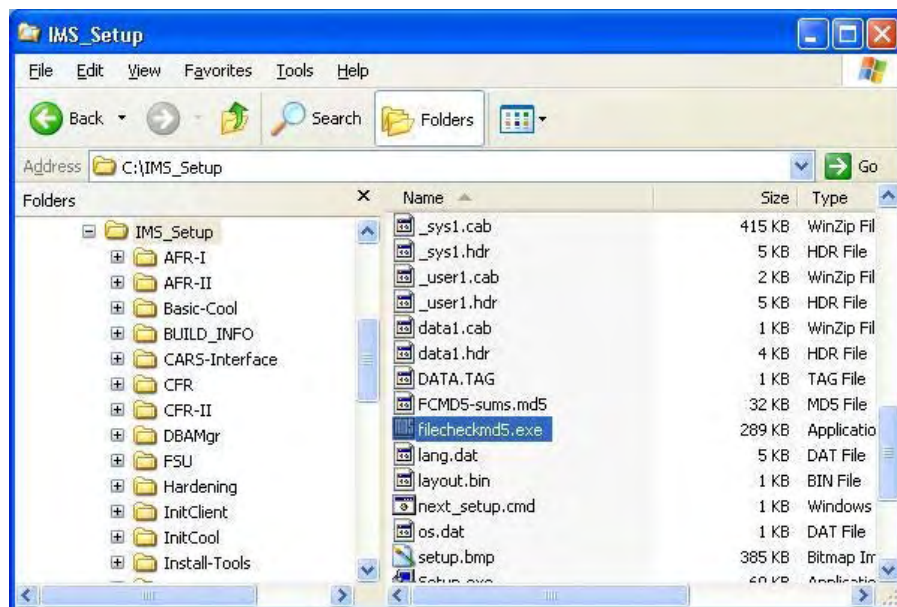

Figure 1-77. Select md5 Filecheck
12. If not selected, select the folder **IMS_Setup** in the left part of the explorer (Figure 1-77).